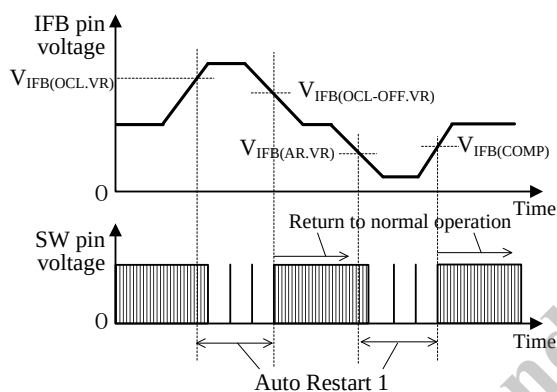
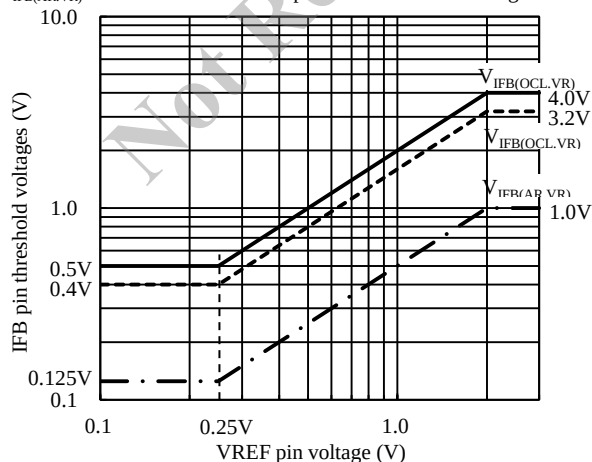

Figure 8-19 IFB pin threshold voltage and Auto Restart 1 operation
Figure 8-20 VREF pin voltage versus IFB pin threshold voltages
As shown in Figure 8-19, IFB pin has two types of threshold voltage. These threshold voltages depend on the VREF pin voltage, as shown in Figure 8-20.
When the FB pin voltage increase to $V_{IFB(OC.VR)}$ in Figure 8-20, or more, the operation of the IC switches to Auto Restart 1. When the fault condition is removed and the IFB pin voltage decreases to $V_{IFB(OC.OFF.VR)}$ in Figure 8-20, or less, the IC returns to normal operation automatically.
When the FB pin voltage decrease to $V_{IFB(AR.VR)}$ in Figure 8-20, or more, the operation of the IC switches to Auto Restart 1. When the fault condition is removed and the IFB pin voltage increases to above $V_{IFB(OC.VR)}$, the IC returns to normal operation automatically.
- (2) When IFB pin voltage becomes $V_{IFB(OCL.VR)}$ or more (see Figure 8-20), the IC switches to Auto Restart 1.
- (3) The LED current increases further and when the IFB pin voltage increases to the IFB Pin Overcurrent Protection High Threshold Voltage, $V_{IFB(OCH)} = 4.0$ V or more, the IC switches to Auto Restart 2.
When the LED_OUT (+) or the IFB pin is open and the OVP pin voltage increases to the OVP Pin Overvoltage Protection Threshold Voltage, $V_{OVP} = 3.00$ V, the IC immediately stops switching operation. When the OVP pin voltage decreases to the OVP Pin Overvoltage Protection Release Threshold Voltage, $V_{OVP(OFF)} = 2.75$ V or the IFB pin voltage decreases to $V_{IFB(AR.VR)}$ in Figure 8-20, then the IC switches to Auto Restart 1.
When the LED_OUT (–) and the GND are shorted, and the IFB pin voltage decreases to $V_{IFB(AR.VR)}$ in Figure 8-20, then the IC switches to Auto Restart 1.
When the output current detection resistor (R15, R61), is shorted, the IFB pin voltage decreases. When the IFB pin voltage decreases to $V_{IFB(AR.VR)}$ in Figure 8-20, then the IC switches to Auto Restart 1.